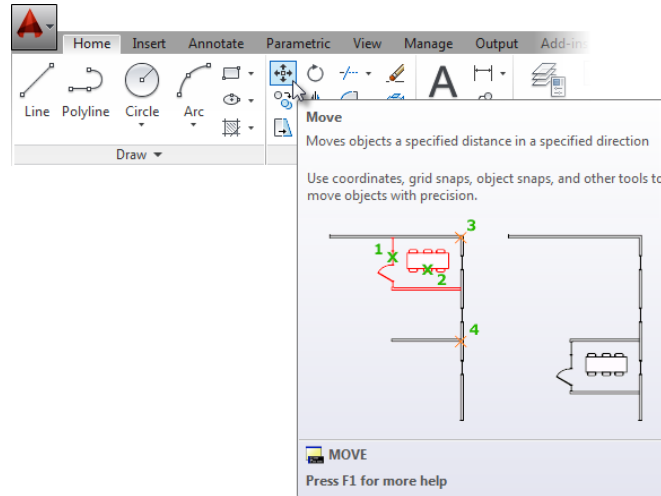

FIGURE 1.9: The cue card for the Move tool
- After a few seconds of hovering over the Move tool button, the tooltip is replaced with a cue card, as shown in Figure 1.9. Cue cards show the step-by-step implementation of the tool.